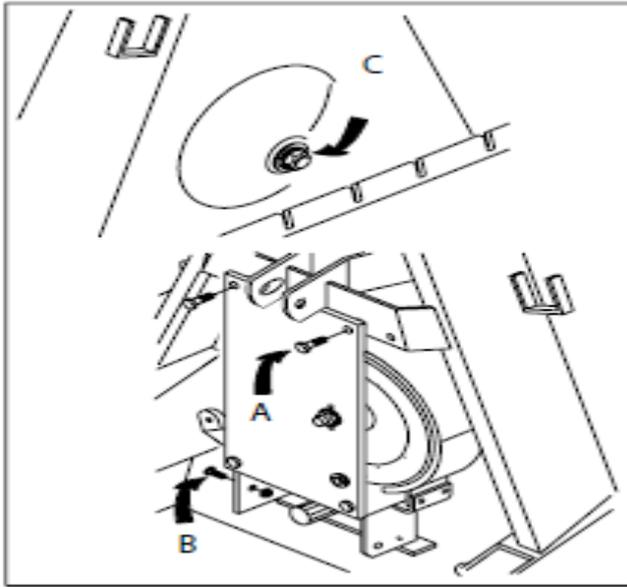

Fig. 19.
3. Remove the fastening bolts (fig. 19 pos. B) beside the drive shaft. Socket size 24 mm (15/16”).
4. Remove the two bolts (fig. 19 pos. A) at the upper edge of the cover plate. Socket size 24 mm (15/16”).
5. Remove the drum axle nut (fig. 19 pos. C) and the washer. Socket size 36 mm (1 7/16”)